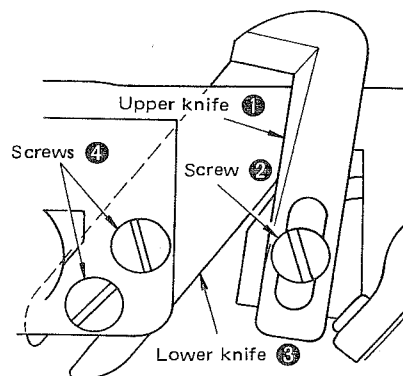

Fig. IV-6-1
Loosen screw ②, and remove upper knife ①. (See Fig. IV-6-1)
Loosen two screws ④, and pull out lower knife ③ from the upper section of the blade. (See Fig. IV-6-1)